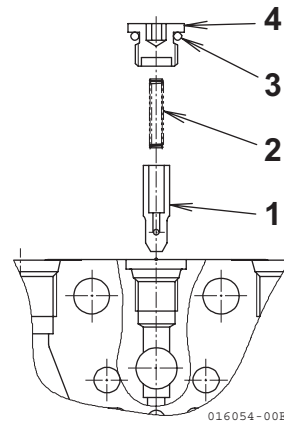

Fig. 4 Check valve section
(4) Particular type **1** (P1, P2 inlet section (See Fig.4))